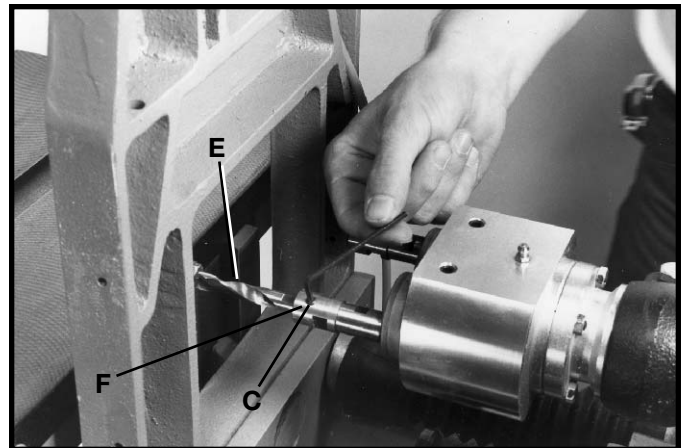

Fig. 16
4. Insert drill bit (E) Fig. 16, not supplied, into adapter (C) and tighten set screw (F) with allen wrench.